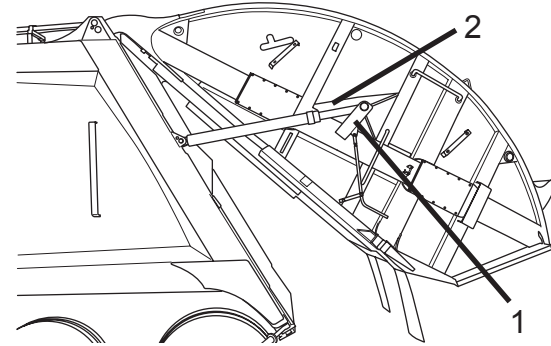

Figure 51
2. Open the tailgate far enough to allow the tailgate prop (Figure 51, Item 1) to fit around the cylinder rod (Figure 51, Item 2).